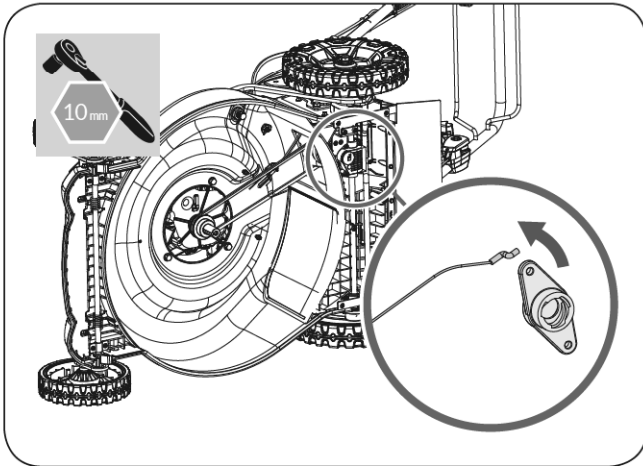

Figure 45
3. Disconnect the cable from the throttle cable end. (See **Figure 45**)